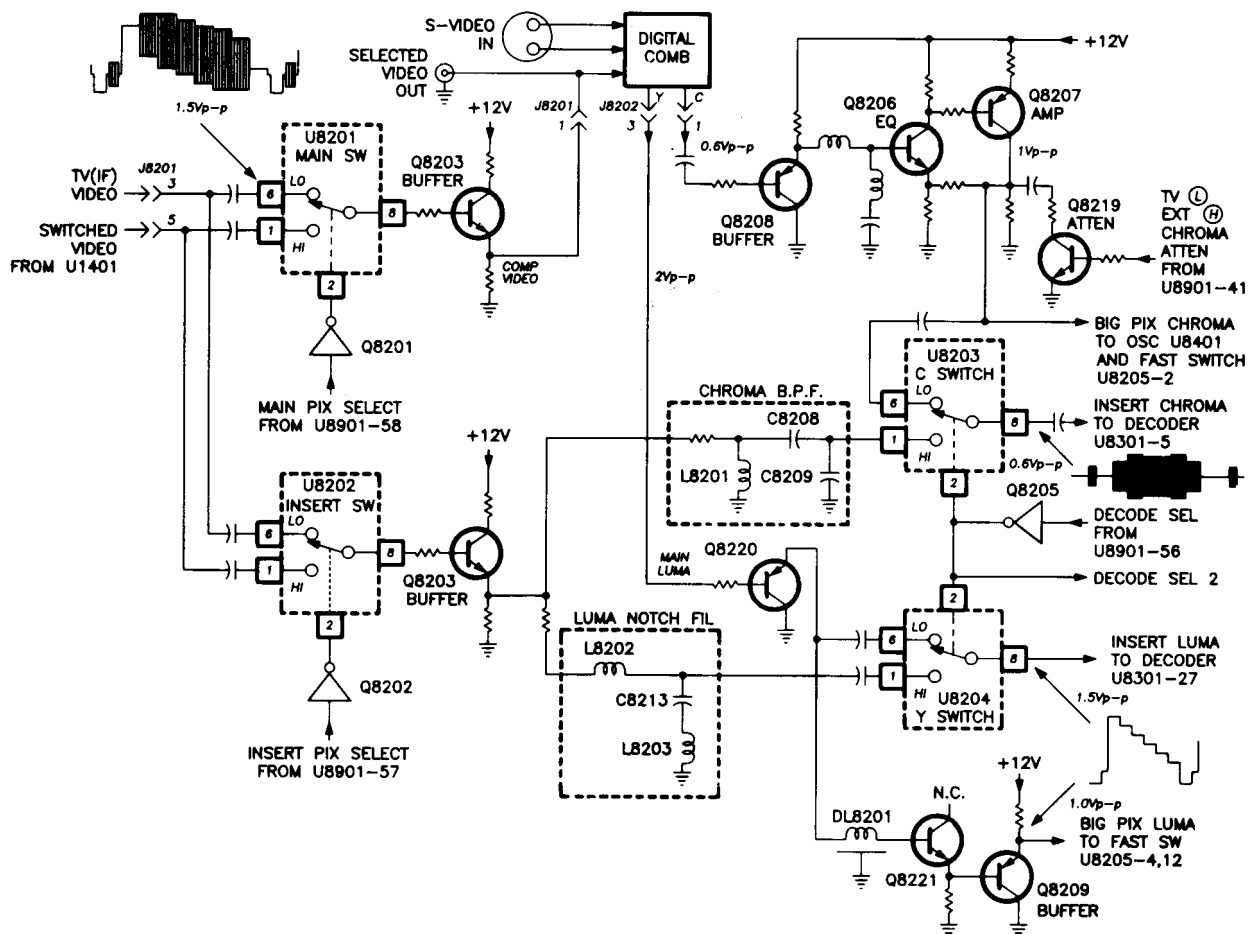

Fig. 9 Input Selection Circuit (SPIP)
2. Where would be the best place to check for the video signals that are used to by the pip processor to create the small pix? (Fig. 9)